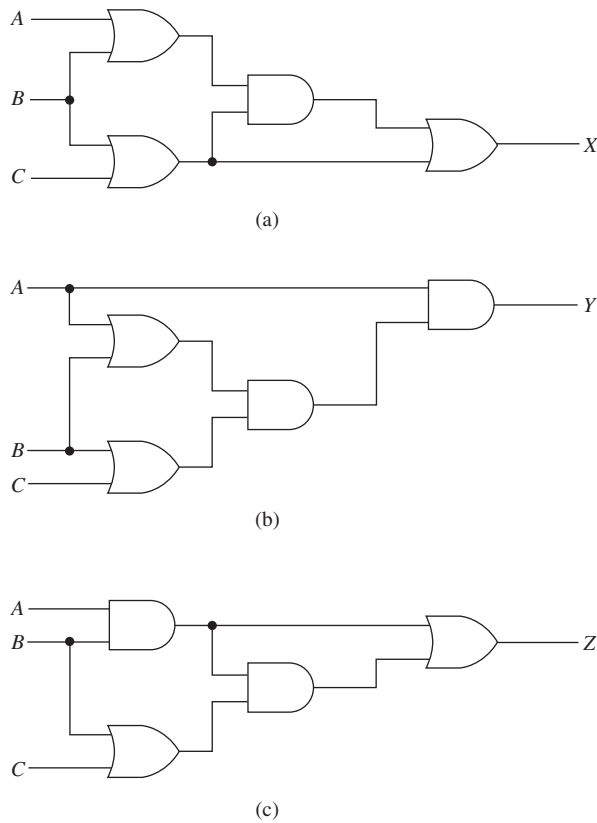

Figure P8
8. Repeat Problem 7 for the circuits shown in Figure P8.